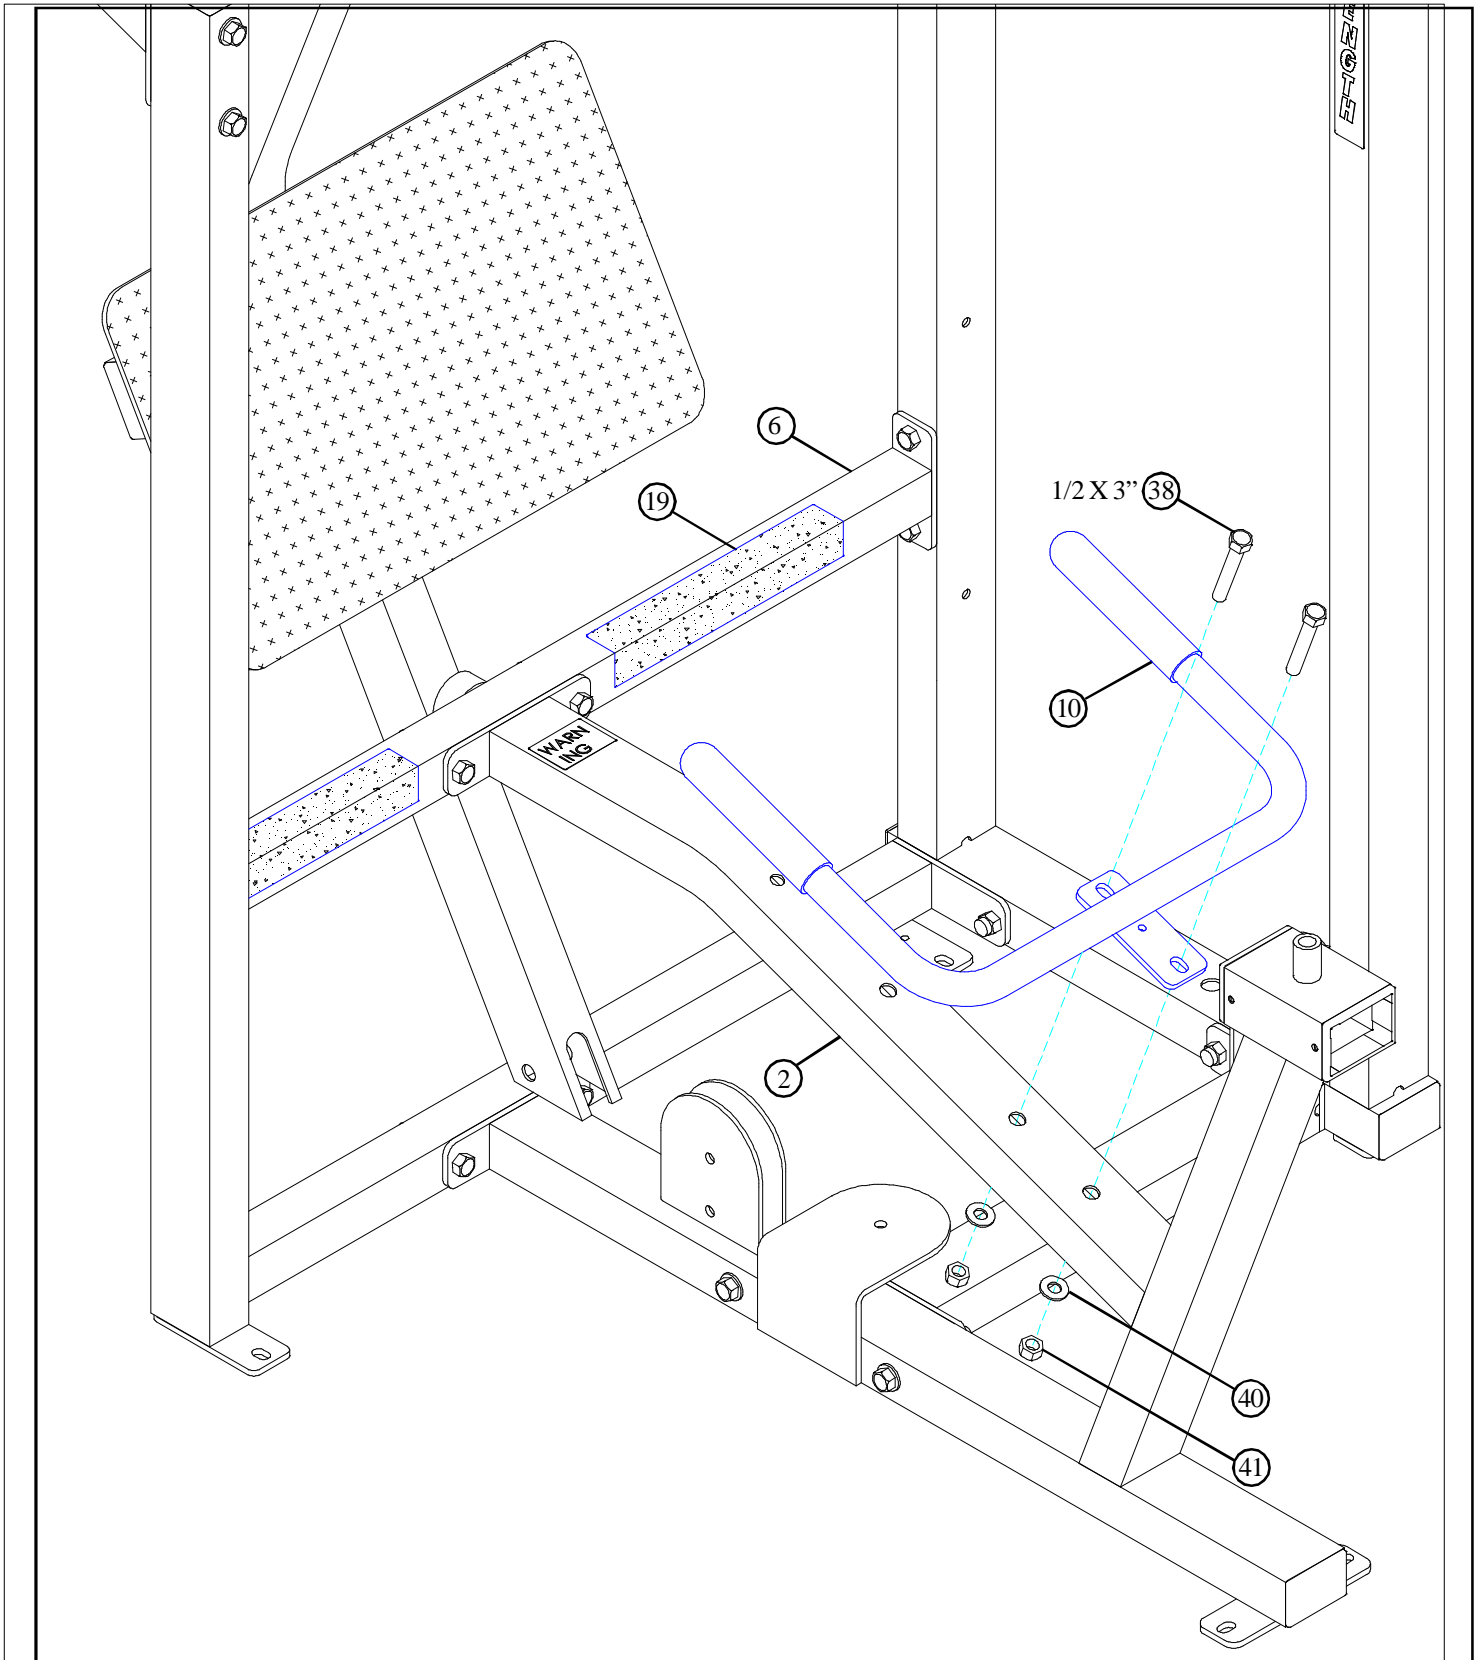

FIGURE 6
- **SECURELY** assemble the HANDLE (10) to the FRAME (2) using two 1/2 X 3" BOLTS (38), two 1/2" WASHERS (40), and two 1/2" LOCK NUTS (41) as shown in FIGURE 6.
- Apply two 2-1/2 X 9-1/2" NON-SKID STRIPS (19) a foot stance apart on the PIVOT FRAME (6) as shown in FIGURE 6.